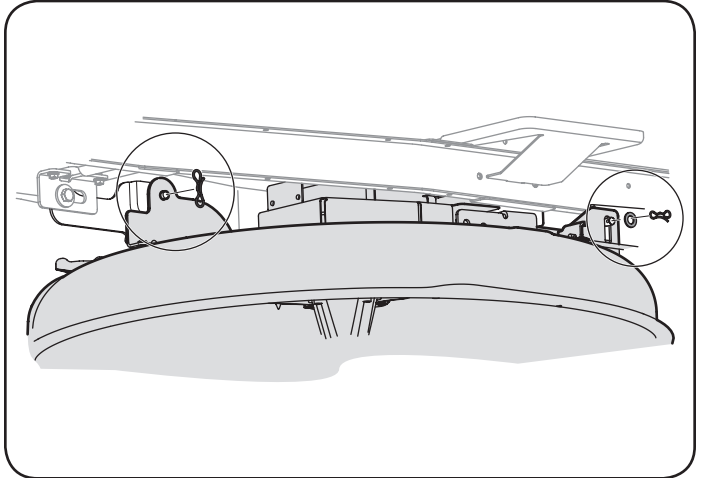

Figure 17
5. Remove the remaining bow-tie cotter pins securing the deck to the unit, as shown in "Figure 17".